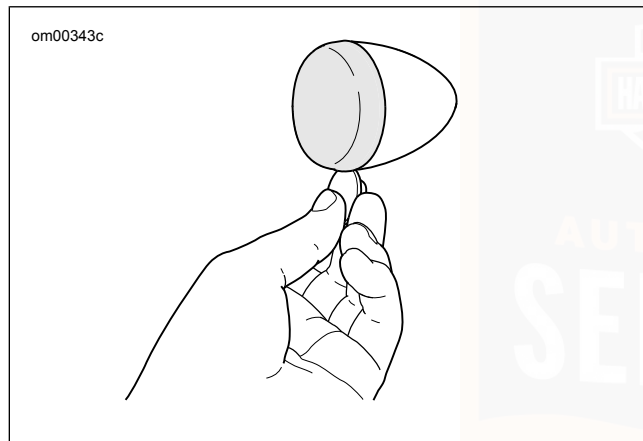

Figure 86. Remove Lens
1. See Figure 86. Insert coin in notch. Carefully twist until the lens cap pops out of the lamp housing.